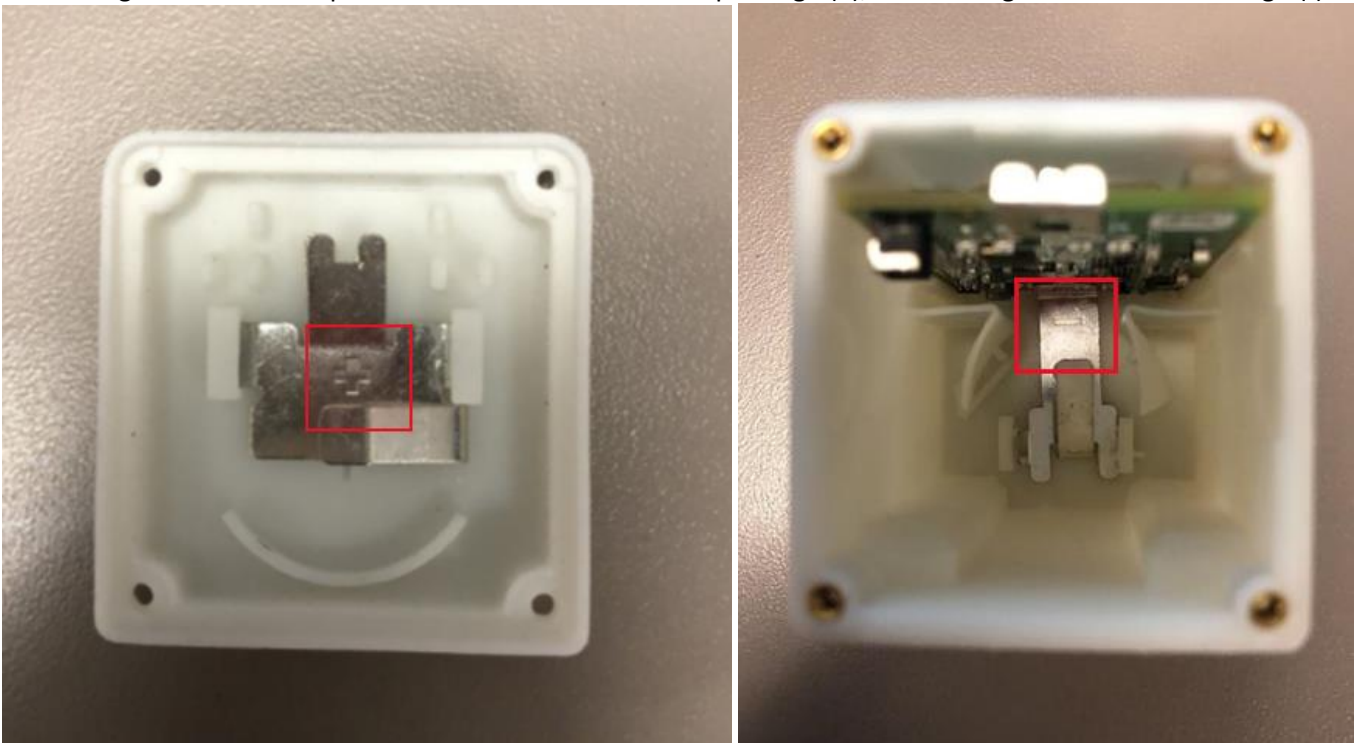

Figure 1-4: Battery Polarity Markers and Insertion
2. Remove the used battery, and replace it with a new 3.6V XENO XL-145F battery **ONLY**. When inserting the new battery, insert the negative terminal side first. The battery contacts are marked with their proper polarities (see Figure 1-4 with the positive terminal marked with a plus-sign (+), and the negative with a minus-sign (-).